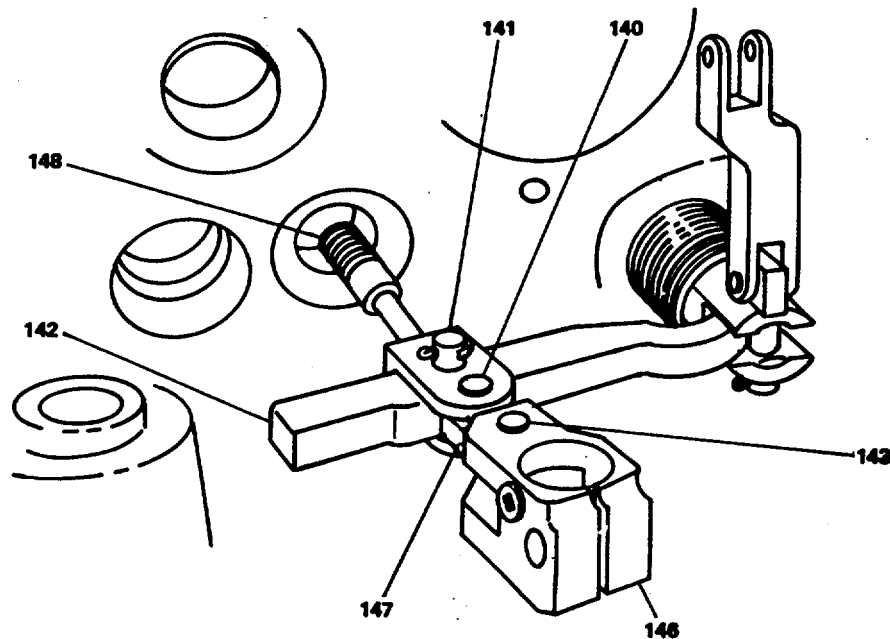

Figure 12-16. Power Piston and Linkage Installation
(11) Insert terminal lever (146), terminal lever link (147) and pivot link (148) into the case (figure 12-16). Insert floating lever (142) through the slot in pivot link (148). Fasten together with pin (141) and secure with a cotter pin.